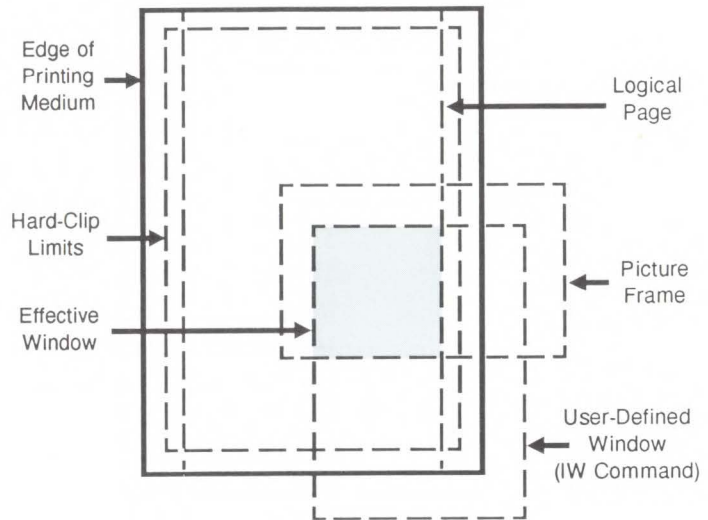

Figure 15-6.
- Specify the PCL Picture Frame dimensions using the $E_C*c\#X$ (Picture Frame Horizontal Size) and $E_C*c\#Y$ (Picture Frame Vertical Size) commands. These commands determine the boundary of the window in which you place or draw your image. The PCL Picture Frame represents the maximum boundary for your HP-GL/2 drawing (see Figure 15-6).